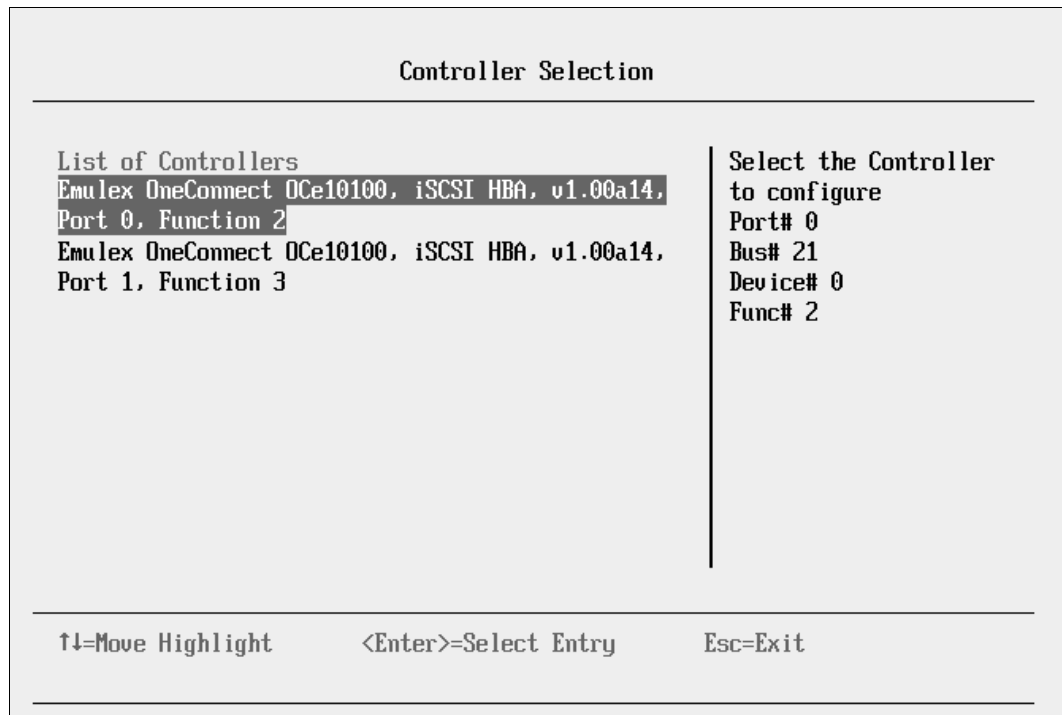

Figure 9-71 Controller Selection panel
5. In the Controller Selection panel (Figure 9-71), where you now see two Emulex fiber ports, select the port you want to boot from. In this example, we select the first port. Then press Enter.